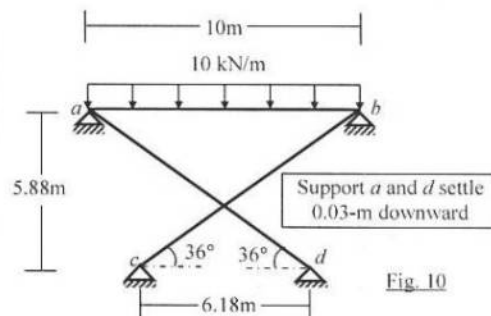

Fig. 10
12. Use the Moment Distribution Method to calculate the joint moments and draw the bending moment diagram of the frame $abcd$ shown in Fig. 10, if in addition to the applied load, supports a and d both settle 0.03-m downward.